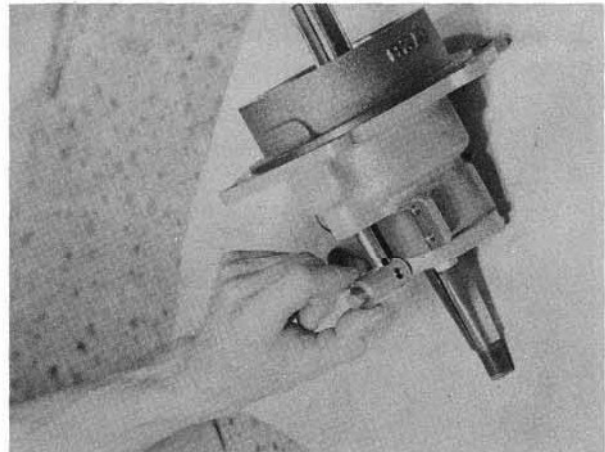

Figure 39
1/4 turn till the hole in the Clutch Sliding Pin is parallel to the milled surface. See Figure 39.
15. Place the Shifter Pin (6726) on the Clutch Sliding Pin as in Figure 39 and line up the holes. Place Hex Head Cap Screw Bolt in the hole from the guard side and secure with an elastic stop nut.